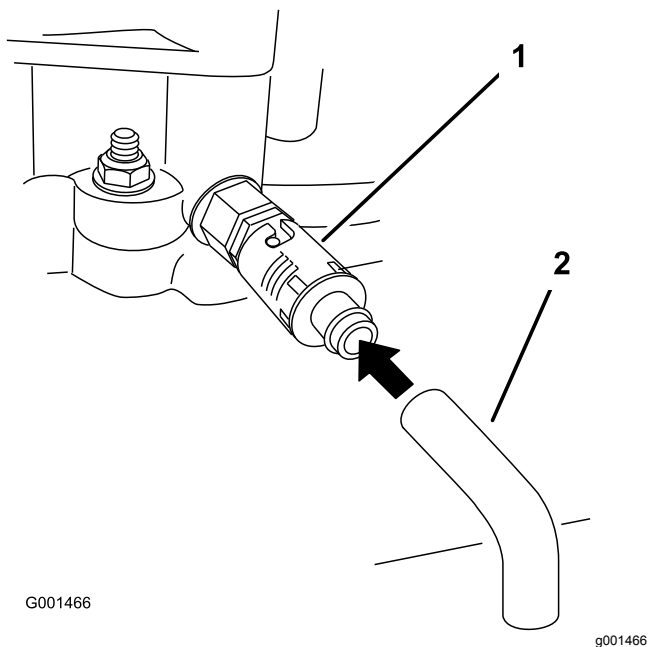

Figure 26
7. Rotate the oil-drain valve to allow the oil to drain (Figure 26).
9. Remove the drain hose (Figure 26).